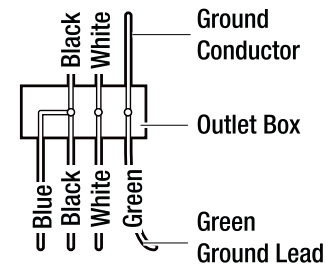

Figure 10
- Connect the fan supply (black) wire and light supply (blue) wire to the black household wire as shown in Figure 10. Do not connect the blue wire if the light kit is not used.
- After connecting the wires, secure the wire connectors (BB) with black electrical tape and spread them apart so that the green and white wires are on one side of the outlet box and the black and blue wires are on the other side. (i.e., grounded conductor on one side and hot wires on the other side.)
- Turn the wire connectors (BB) upward and push the wiring into the outlet box.